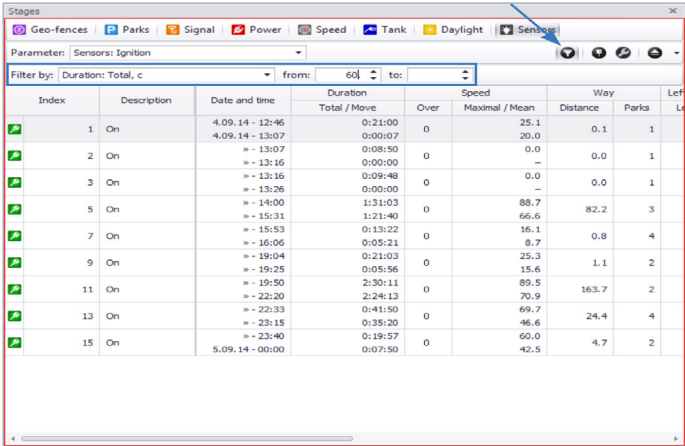

Fig. 118. Filtering stages by numeric parameter.
To make the operation convenient, the stage list filtering is organized. It allows selecting stages based on the criterion of interest. To call the filtration menu, click the “Filter” button on Stages viewer toolbar (**Fig. 118**).
- For numeric parameter set the range of possible values of the selected parameter (the fields “from” and “to”), **Fig. 118**.
In Stages viewer the stages during which the value of the selected parameter was in the set range will be displayed. Fig. 118 illustrates an example of the filtration of the stages based on the minimum duration – the stages less than 60 seconds are not displayed in the list. Fig. 119 illustrates an example of the filtration of the stages based on the sensor status – the stages when the ignition was off are not displayed in the list.